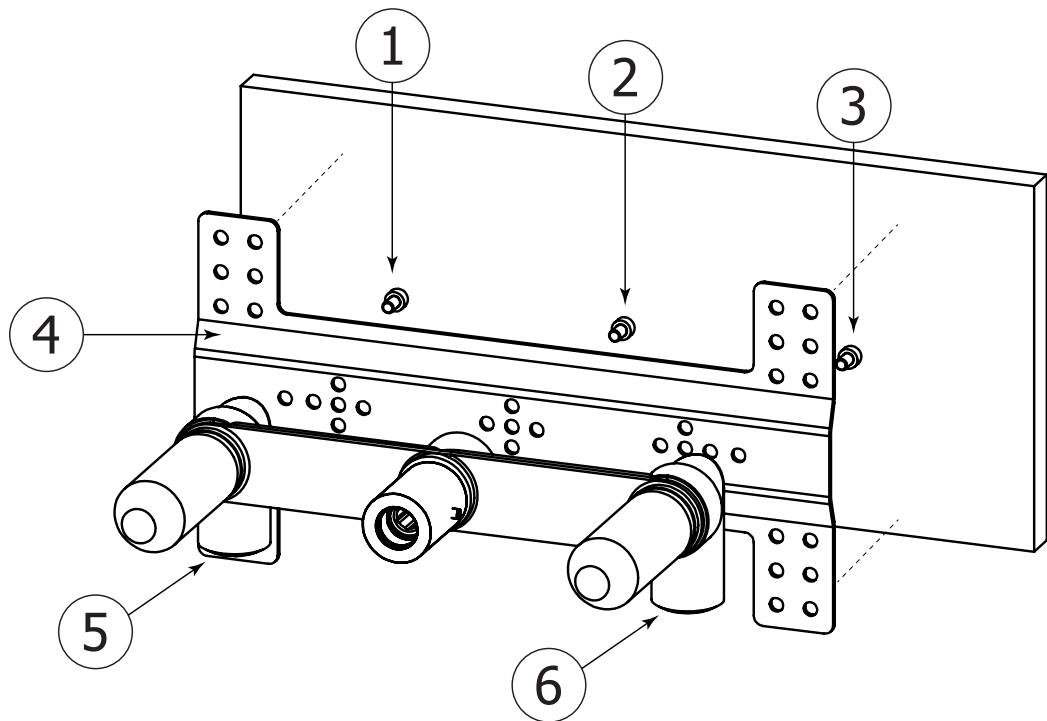

Fig. 2
- Fig. 2:** To carry out an optimal positioning, it is necessary to perform a test assembly before placing the valve in the wall, while it is still possible to regulate the depth of the wood support. Fix the valve housing on appropriate plate (4) with the three screws (1-2-3) and afterwards screw the wood support on the horizontal uprights at the desired height.